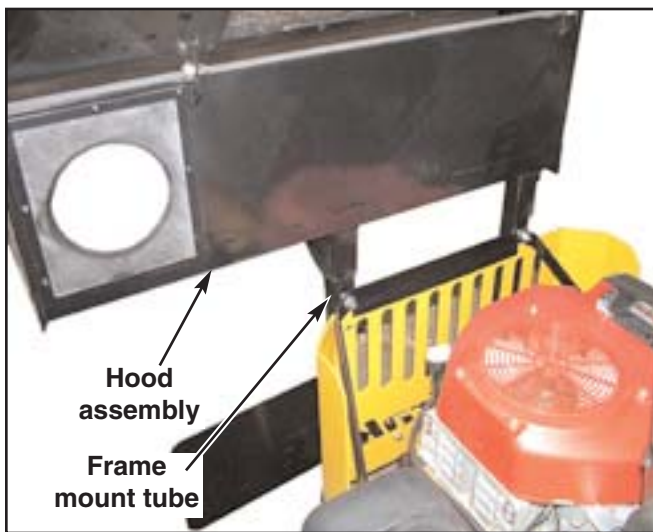

Figure 3-16
7. Slide the catcher hood assembly (Ref. # 1) onto the frame mount tube (Ref. # 27). Fig. 3-16
10. Slide the catcher hood assembly (Ref. # 1) onto the frame mount tube (Ref. # 27). Fig. 3-16
15. Slide the catcher hood assembly (Ref. # 1) onto the frame mount tube (Ref. # 27). Fig. 3-16